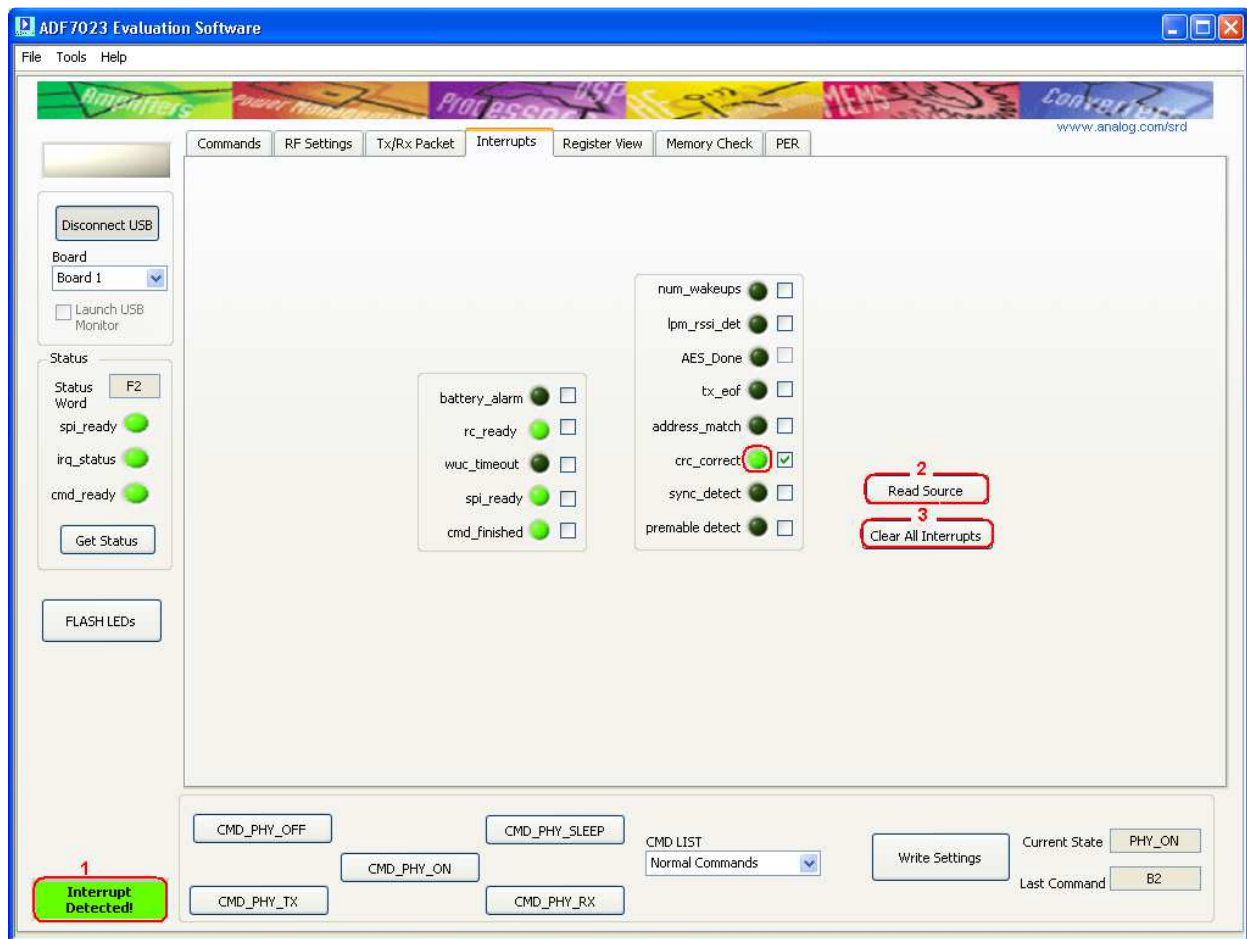

Figure 38
Once the Transmitter has transmitted a packet you should now see “Interrupt Detected!” on the Receiver software instance. (Figure 38 point (1))
To check the source of the interrupt, click “**Read Source**” (Figure 38 point (2))
To Clear the interrupt status click “**Clear All Interrupts**” (Figure 38 point (3))